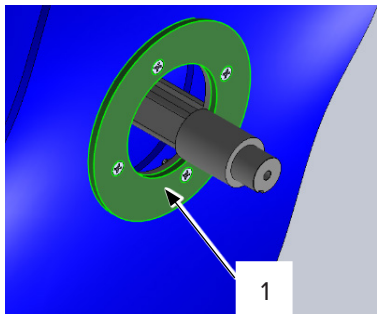

Figure 14
12. Remove the end retainer from one broom end [Figure 14, Item 1].